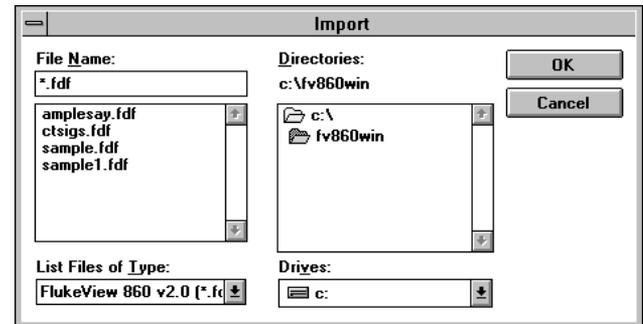

Figure 27. Import Dialog Box
2. Select File - Import. The Import dialog box (Figure 27) appears.